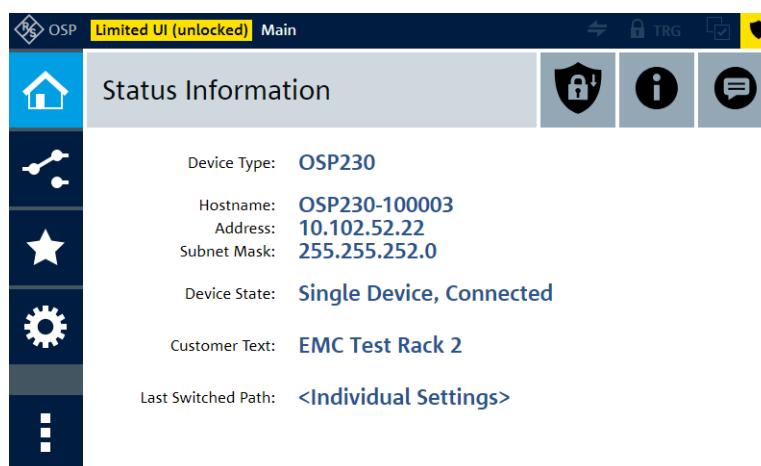

Figure 6-52: Unlocking UI Access Limitation shows a yellow shield icon in the top-right corner
- A yellow shield icon  in the top-right corner (Figure 6-52) indicates an **unlocked** "UI Access Limitation". The text "Limited UI (unlocked)" also appears in the top-left side.